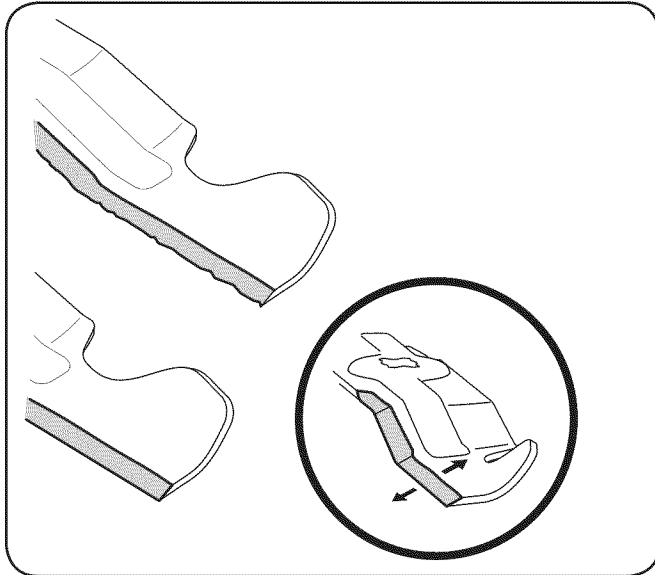

Figure 7-6
- To properly sharpen the cutting blades, remove equal amounts of metal from both ends of the blades along the cutting edges, parallel to the trailing edge, at a 25°- 30° angle. Always grind each cutting blade edge equally to maintain proper blade balance. See Fig. 7-6.